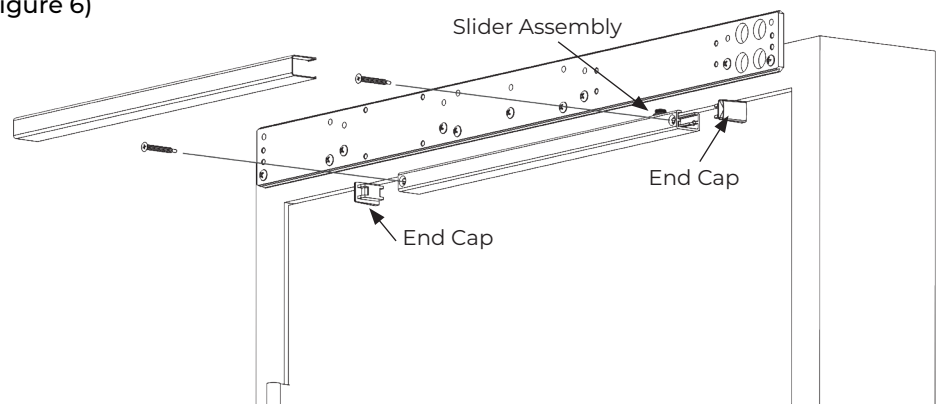

Figure 6
4. Orient the track so the recessed screw holes face away from the door and the slider is facing the top of door. The first mounting hole is located nearest the door hinge. (Figure 6)
9. Snap the cover onto the track, making sure the open side with tabs is facing up. (Figure 6)